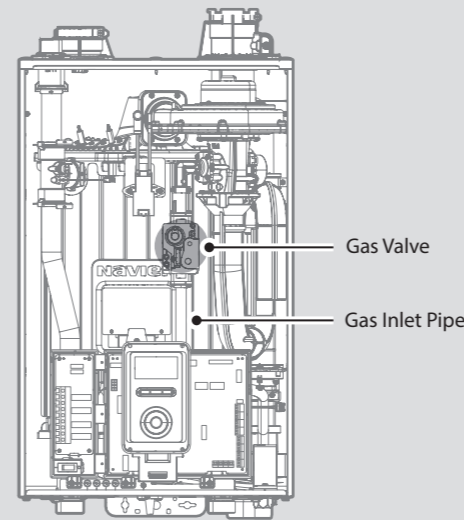

Figure 2. NFB-H Series Internal Manometer
- With the internal components exposed, locate the gas inlet pipe and the gas valve, as shown in Figure 2.